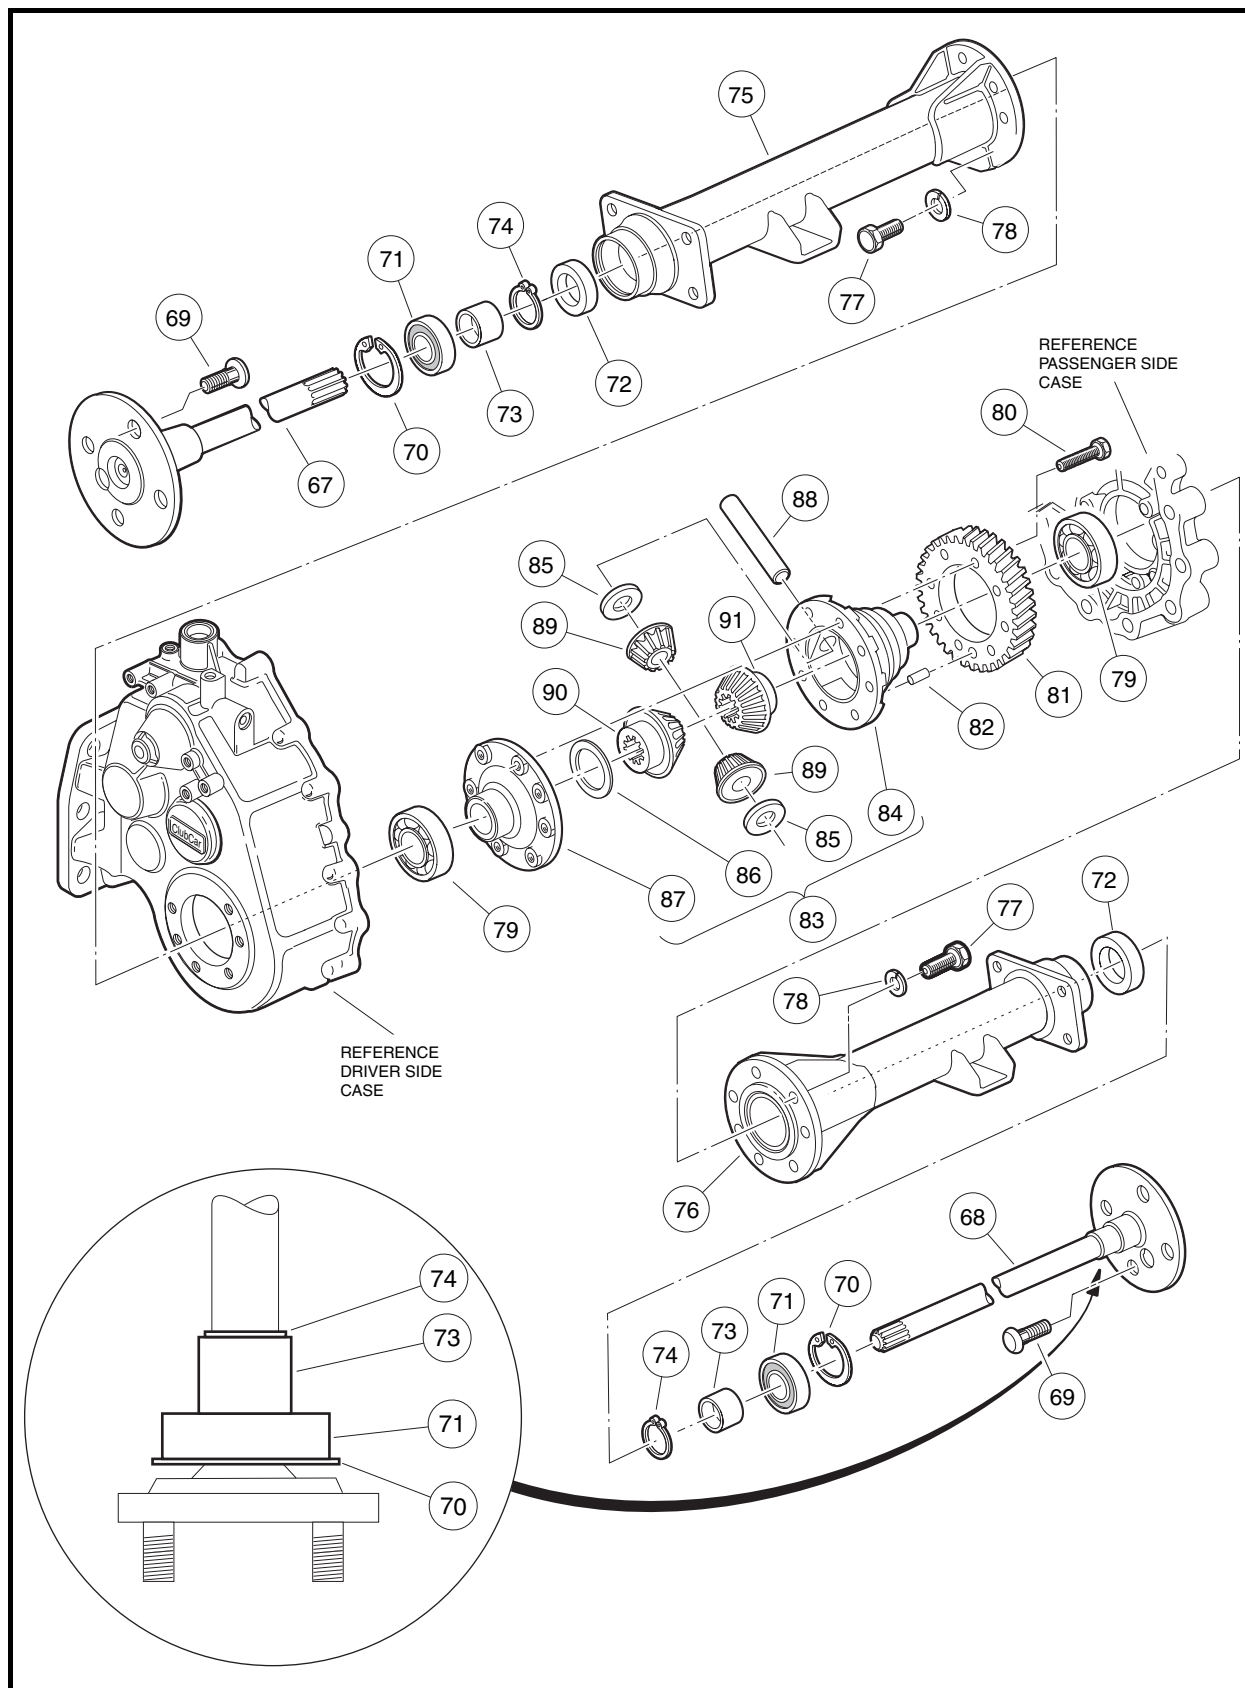
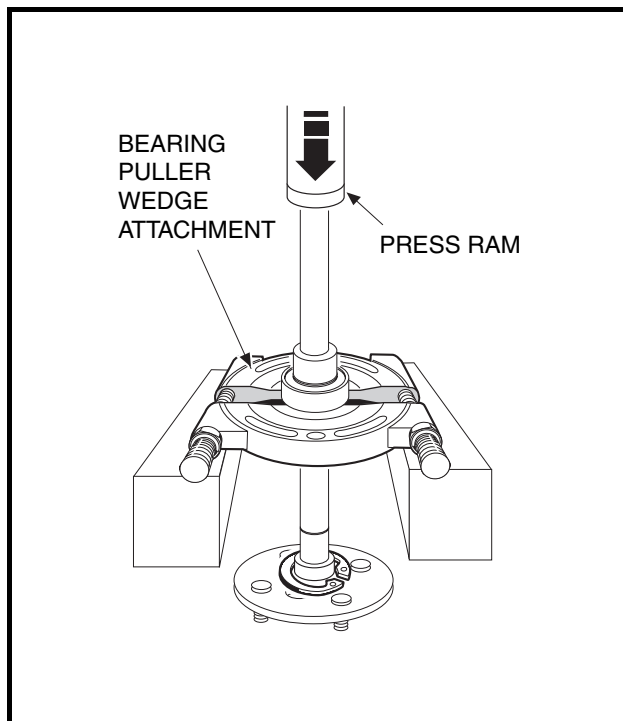
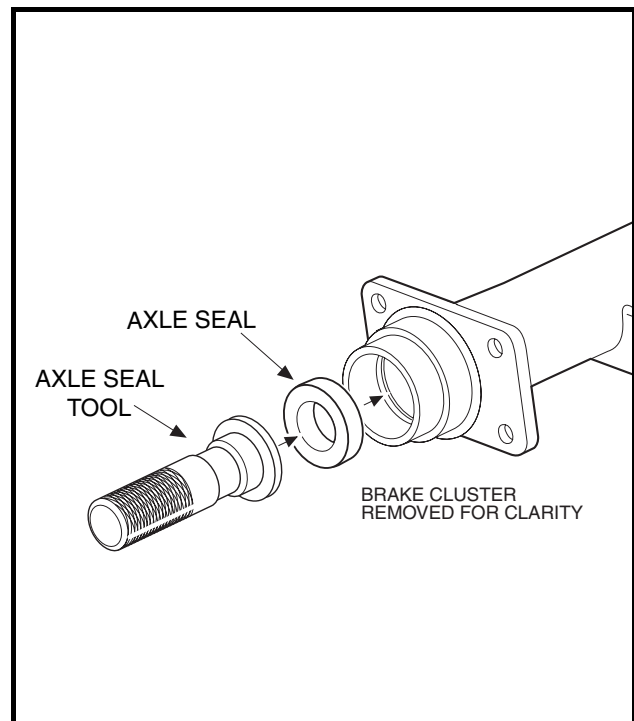

Figure 16-6 Differential Gear Case/Axle Tubes
Figure 16-7 Bearing and Collar
Figure 16-8 Axle Seal Tool
- Inspect the axle shaft assembly to be sure the bearing (71) and collar (73) have not slipped and are still seated against the shoulder on the axle shaft (**Figure 16-6, Page 16-5**).
- Use external retaining ring pliers (0.047-inch tip) to remove the retaining ring (74). Place a bearing puller wedge attachment (CCI P/N 1012812) on the axle shaft between the wheel mounting flange and the bearing (**Figure 16-6, Page 16-5**). See also **Figure 16-7, Page 16-7**. See following **CAUTION**.
- Press the bearing (71) and collar (73) off together (**Figure 16-6, Page 16-5**). See also **Figure 16-7, Page 16-7**. See following **NOTE**.
Do not remove the large axle retaining ring (70) from the axle (**Figure 16-6, Page 16-5**). Since the inner diameter of the retaining ring (70) is smaller than the outer diameter of the bearing (71), the ring must be in place on the axle before a new bearing and collar are pressed on.
1. Ensure that the retaining ring (70) is loosely placed on the axle shaft. **See preceding NOTE.**
2. Install a new axle bearing (71) on axle (67 or 68). Push bearing onto axle until bearing is flush against axle shoulder (**Figure 16-6, Page 16-5**).
4. Place a new sealed bearing (71) on shaft (67 or 68) (**Figure 16-6, Page 16-5**).
5. Install collar (73) onto axle shaft. Place axle assembly on bearing puller wedge attachment and press collar onto axle.
7. Use external snap ring pliers (0.047-in. tip) to install collar retaining ring (74) (**Figure 16-6, Page 16-5**).
1. Clean bearing and seal seats in axle tube (75 or 76) (**Figure 16-6, Page 16-5**).
2. Place a new oil seal (72) in axle tube with seal lip facing inside of the axle tube (**Figure 16-6, Page 16-5**). Use an axle seal tool (CCI P/N 1014162) to press it in until it seats firmly in position (**Figure 16-8, Page 16-7**). **See following NOTE.**
4. Install the bearing retaining ring (70) in the axle tube (**Figure 16-6, Page 16-5**). **See also Figure 16-3, Page 16-3.**